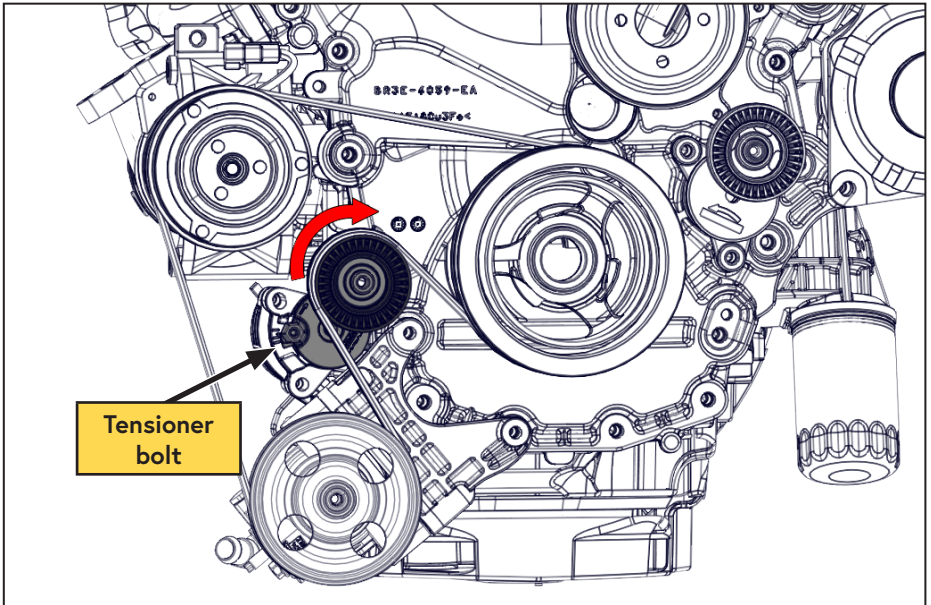

Figure 15 — Remove 4 rib belt
- Using a 14 mm wrench to release the tension, remove the OEM 4 rib belt and discard (Figure 15).